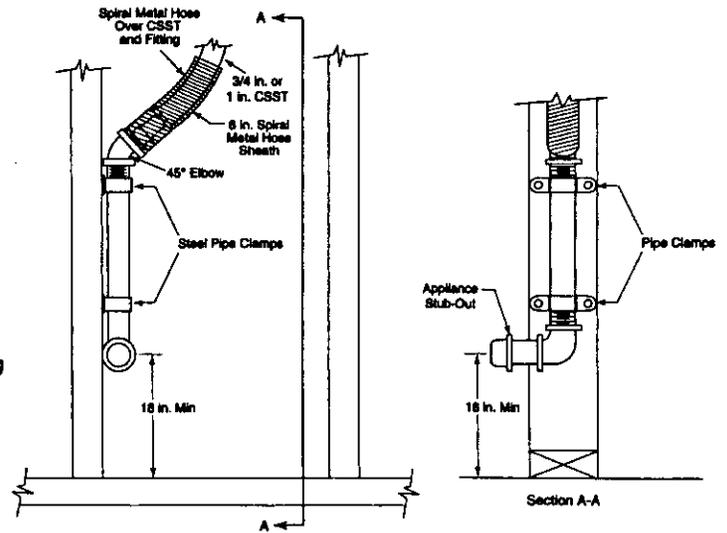

**FIGURE 4-36**
**Roof Mounted Equipment: FIGURE 4-36** - No special mechanical protection of the CSST is required for connections to roof top equipment. Whenever possible, roof penetrations shall be located within 6 ft of the equipment to be connected as shown in Figure (4-36). Long runs of tubing shall be supported with nonmetallic blocks every 4-ft. along its outdoor length, and raised above the roof a distance determined by local code/practice (4-37).